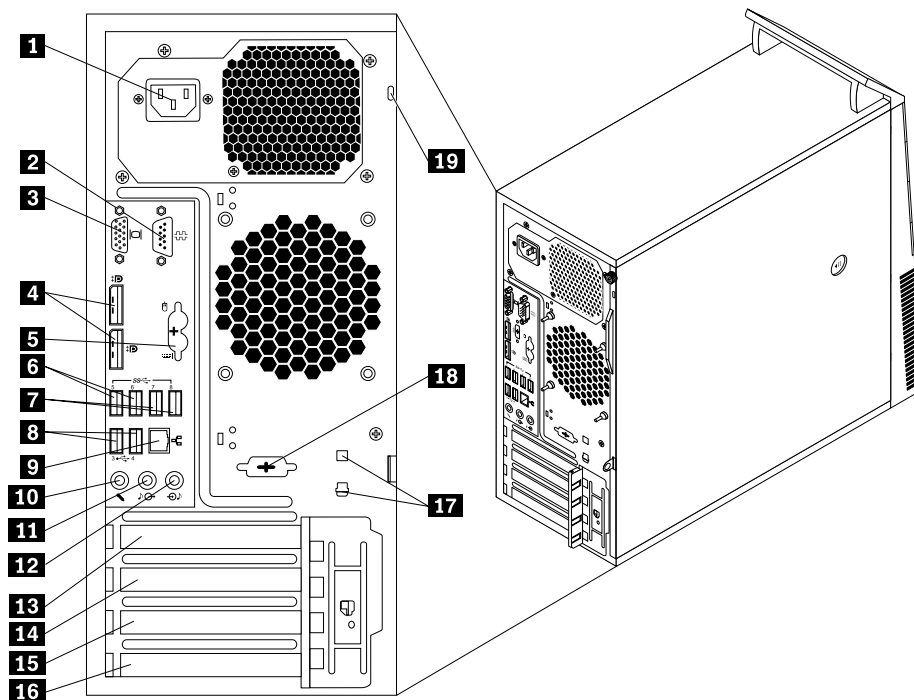

Figure 2. ThinkCentre M93/p rear connector locations
- Figure 2 “ThinkCentre M93/p rear connector locations” on page 68 shows the locations of the connectors on the rear of ThinkCentre M93/p computer. Some connectors on the rear of your computer are color-coded to help you determine where to connect the cables on your computer.